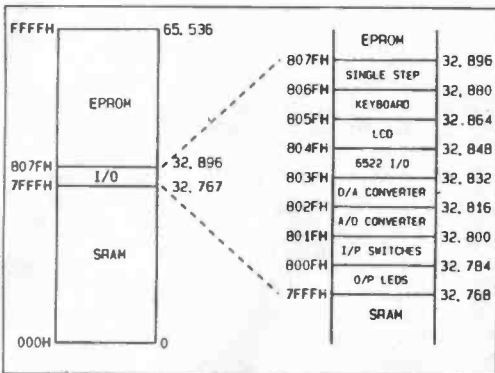

Fig. 9.9. Micro Lab address map.
All the devices that the microprocessor is able to read or write data to and from have their own unique space in the Address Map. Fig. 9.9 shows a typical address map – in this case it is for the *Micro Lab*. The address map is a plan of the computer's systems, and it shows the locations of all the subsystems connected to the data bus.
If you check the memory map in Fig. 9.9 you will see that FFFC(H) and FFFD(H) are near the top of the EPROM, and this location does indeed contain the first lines of our monitor program. The first few lines of our program are instructions to the CPU to initialise the stack register and check whether the memory has been corrupted or preserved by battery or +5 volts.